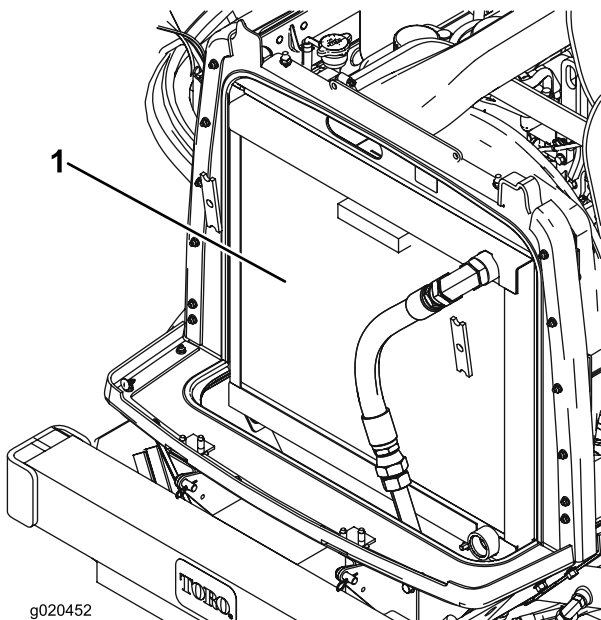

Figure 66
3. Clean both sides of the radiator/oil cooler area thoroughly with compressed air (Figure 66).